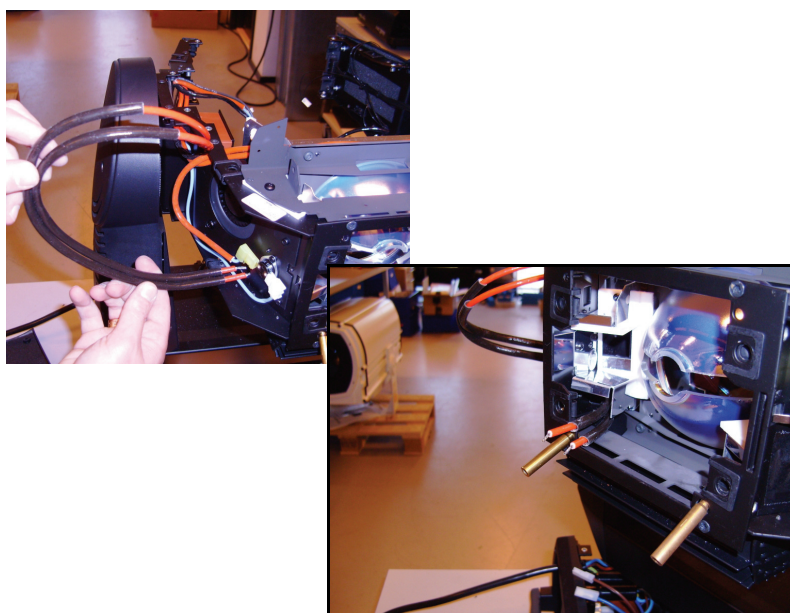

Figure 56
61. See Figure 56. Install the heat sleeve supplied in the Upgrade Kit on the lamp leads and thread the lamp leads into the lamp compartment.